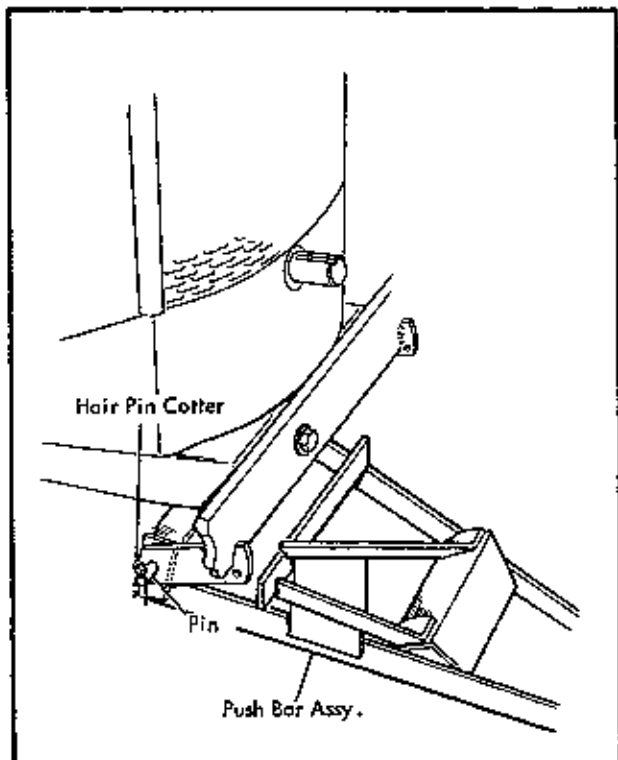

Fig. 8
1. The snow plow push bar attaches to the front of the tractor frame by means of 2 pins and 2 hair pin cotters as shown in figure 8. Position the snow plow with the push bar directly under the attaching points on the tractor. Tilt the push bar upward until the vertical projections on the push bar are in place on the tractor frame and insert the pins, and hair pin cotters.